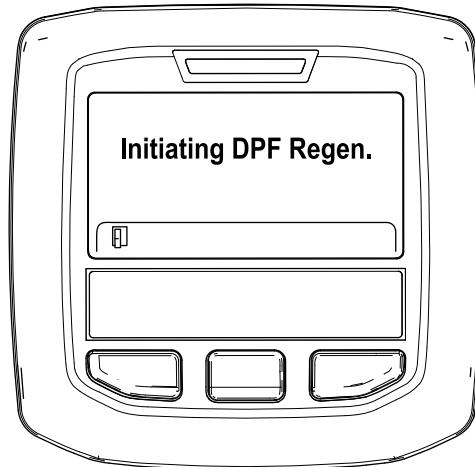

Figure 49
- A. The “Initiating DPF Regen.” message displays (Figure 49).